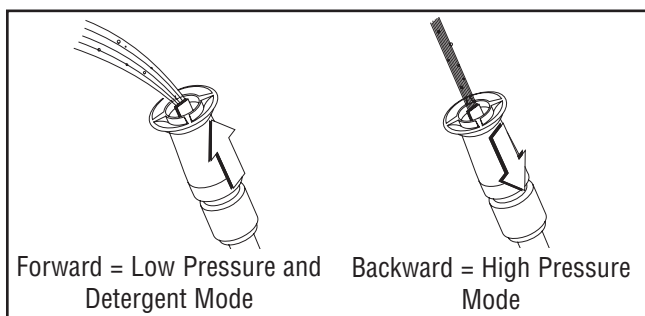

Figure 23— Adjusting Nozzle for Pressure
1. Slide nozzle forward to obtain low pressure mode (see Figure 23). Slide nozzle backward to achieve high pressure.